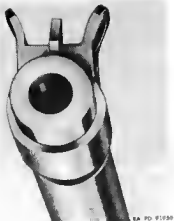

Figure 79. Muzzle end of barrel showing counterbores.
- (g) All rebuilt carbines must be counterbored at the muzzle end of the barrel (Fig. 79). This counterbore improves the accuracy of the carbine and is intended to eliminate